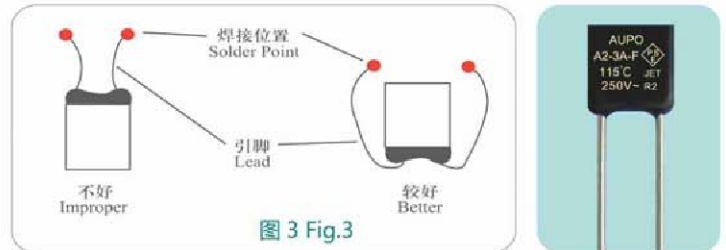

图 3 Fig.3
- 尽可能利用长一些的引脚，长一些的引脚允许较长的焊接时间及减少过热的可能性。（见图 3）为如何在较小的位置保留长一些的引脚的例子。在引脚较短的情况下，在焊接时要用尖嘴钳或其它工具夹在引脚上焊点和保险丝体之间位置上以散热，避免焊接热传入量温度保险丝内部。同时焊接温度应控制不要过高，焊接时间尽可能短。
- Using the lead wires as long as possible when soldering, longer leads permit a longer soldering time and reduce the possibility of overheating. Fig.3 is an example of how to keep a longer lead wires when a thermal cutoff is installed in a small space. It is recommended that using a heat sink between the soldering point and sealant to minimized the heat transmission to thermal cutoff. Avoid the soldering temperature is too high and keep the soldering time as short as possible.